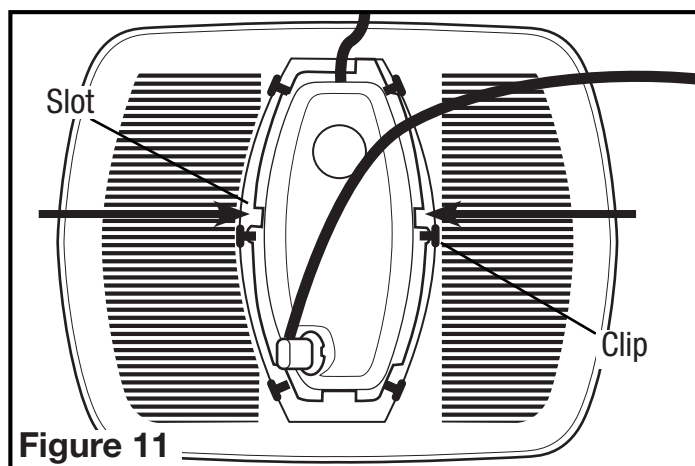
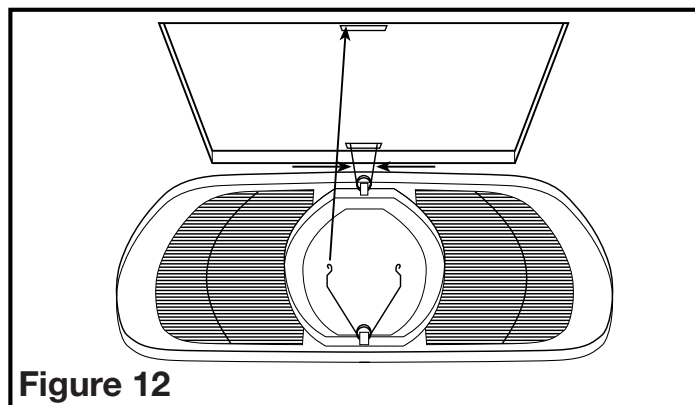

Figure 11
Figure 12
- Install the reflector onto the grill by placing the slots on the side of the reflector over the lens clips near the center of the grill. While squeezing the middle of the reflector, slide it so that the plastic notches rest under the lens clips and the reflector feels secure (**Figure 11**).
- Install the grill (with reflector) by squeezing the two ends of the springs together and installing them up into the slots on the fan's housing. Push the grill up into position (**Figure 12**).
- Changing the Lamp:** Disconnect power to the unit. Remove grill by pulling downward on grill and squeezing grill springs together to release from housing (**Figure 12**). Remove Reflector from grill by sliding the reflector notches from beneath the lens clips on grill. (**Figure 11**).